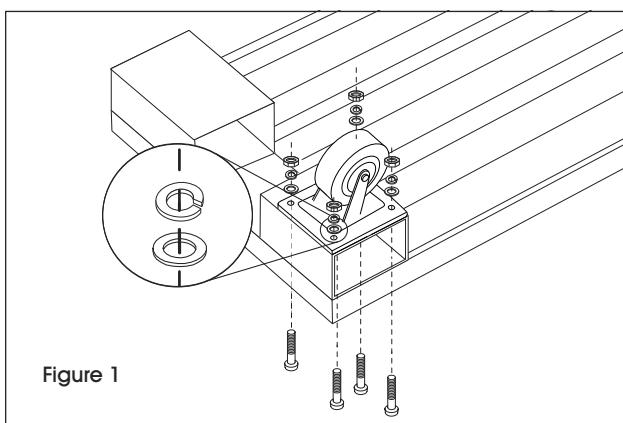

Figure 1
1. Place deck on a smooth, non-marring surface with top side down. Mount swivel casters to deck with small carriage bolts, small nuts, small lock washers and small washers. (See Figure 1)